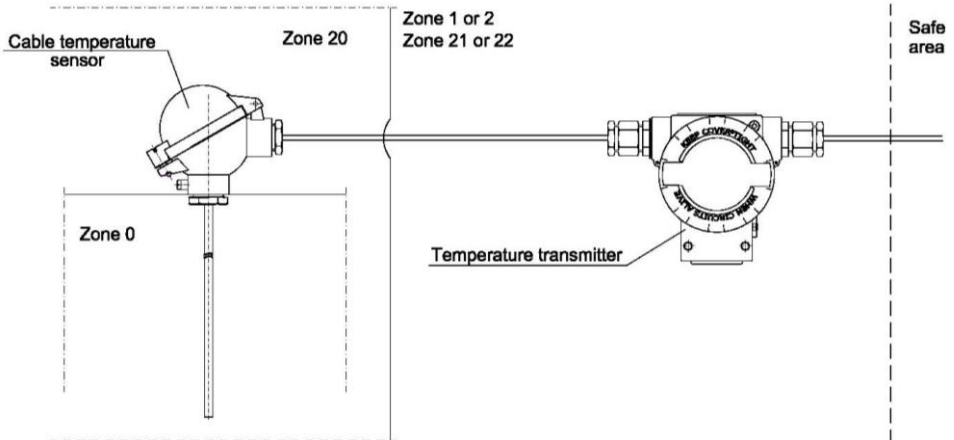

Fig. 1. LI-24ALW temperature transmitter with a cable temperature sensor.
Transmitter Category 2(1) in ATEX code means it may be installed in a hazardous area 1 (21) or 2 (22) and cable temperature sensor, supplied together with the transmitter, may be installed in an area 0 (20) (Fig.1).